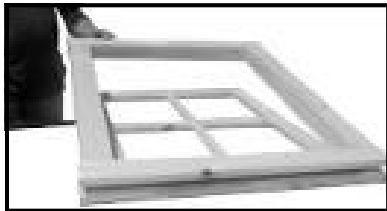

Fig A12
21. Place the window into the aperture (fig A12) **ensure that part WC** is against the hinges .